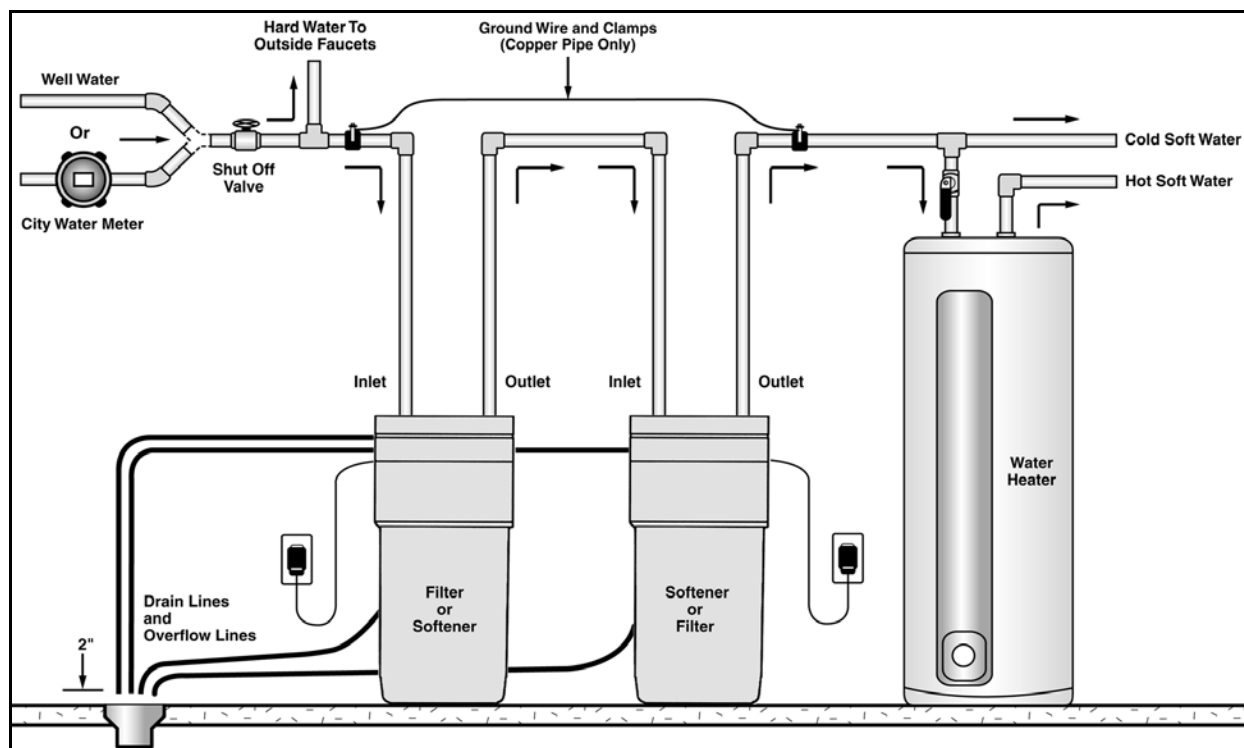

Figure 1: Appliance Placement
- F. Place the the appliance in the desired location using Figure 1 as a guide. The diagram in Figure 1 applies to basement, slab, crawl space, and outside installations.